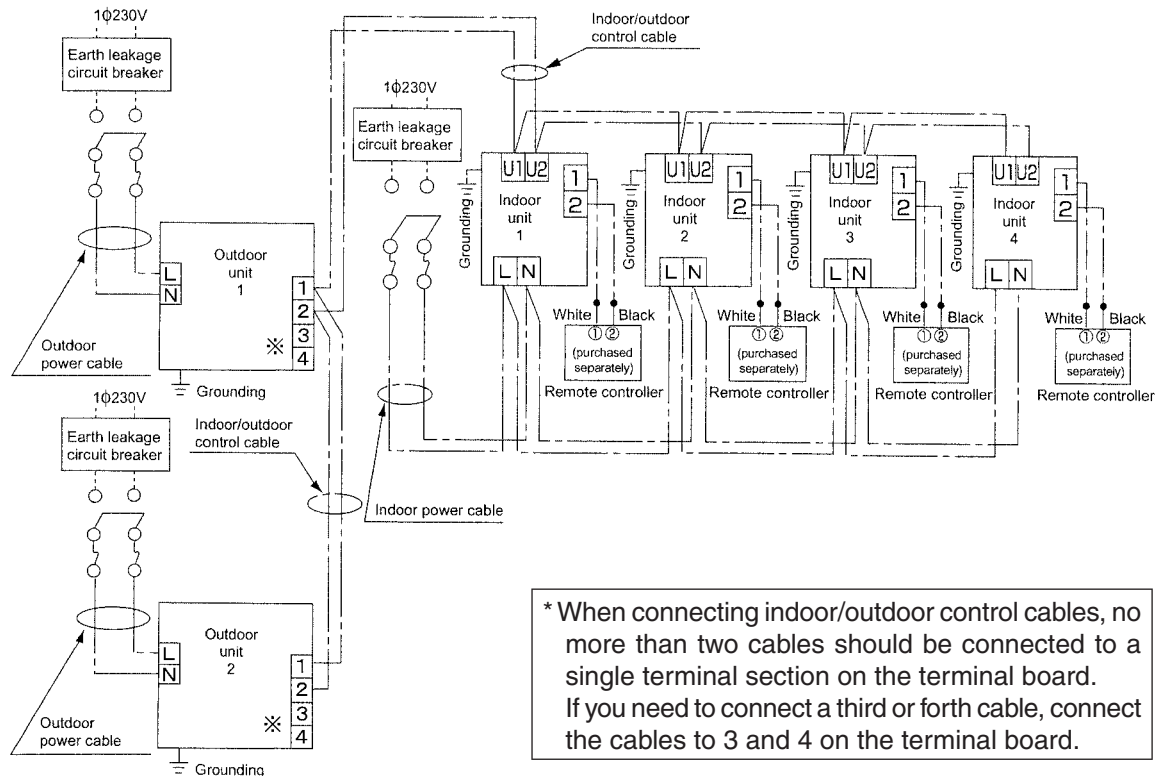

Fig. 1 Electrical Wiring System Diagram (2 WAY-Type)
- For electrical wiring work, refer to the Electrical Wiring System Diagram (Fig. 1) and the electrical circuit diagram attached to the indoor unit. (2 WAY-type)